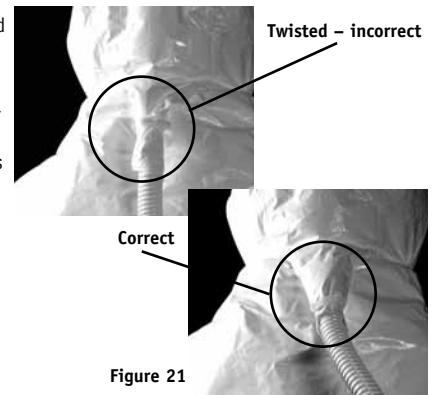

Figure 21
- Engage clamp locks and squeeze together until tight. Air entry sleeve should not be twisted or restricted (see Figure 21). If so, then remove the clamp and repeat steps 2-4.